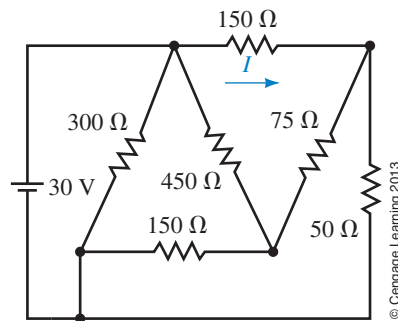

FIGURE 8–98
45. Repeat Problem 43 for the circuit of Figure 8–98.